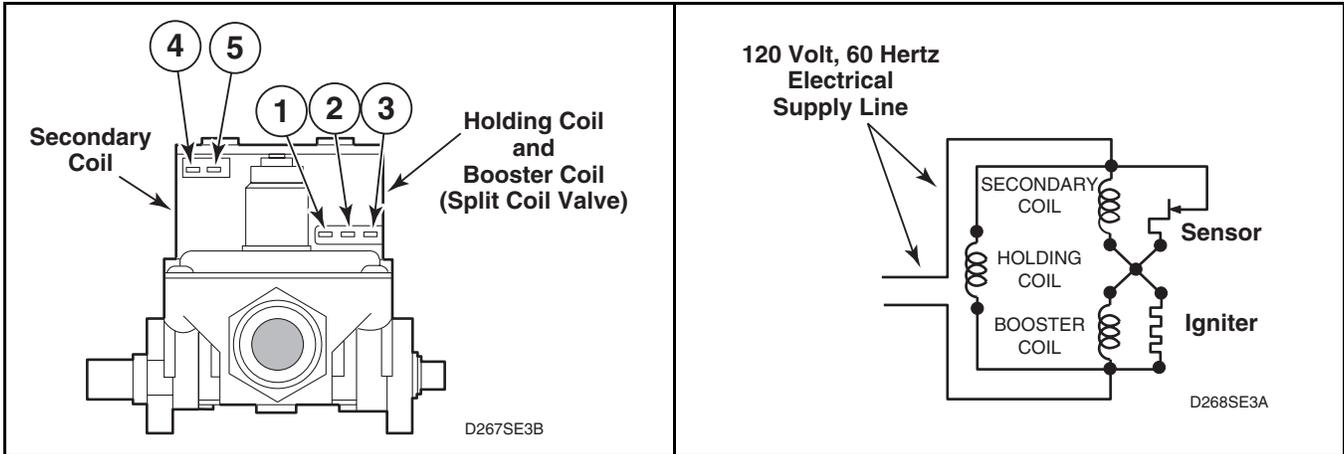

Figure 48
68. BURNER SYSTEM OPERATION (Gas Models – Refer to *Figure 48*.)
- f. Set test meter to read AC voltage and apply meter probes into terminals on the dryer harness plug that would correspond to terminals "1" and "2" on the coil. *Figure 48*. Meter should register line voltage in all Fabric settings, except NO HEAT which should read "zero" VAC.